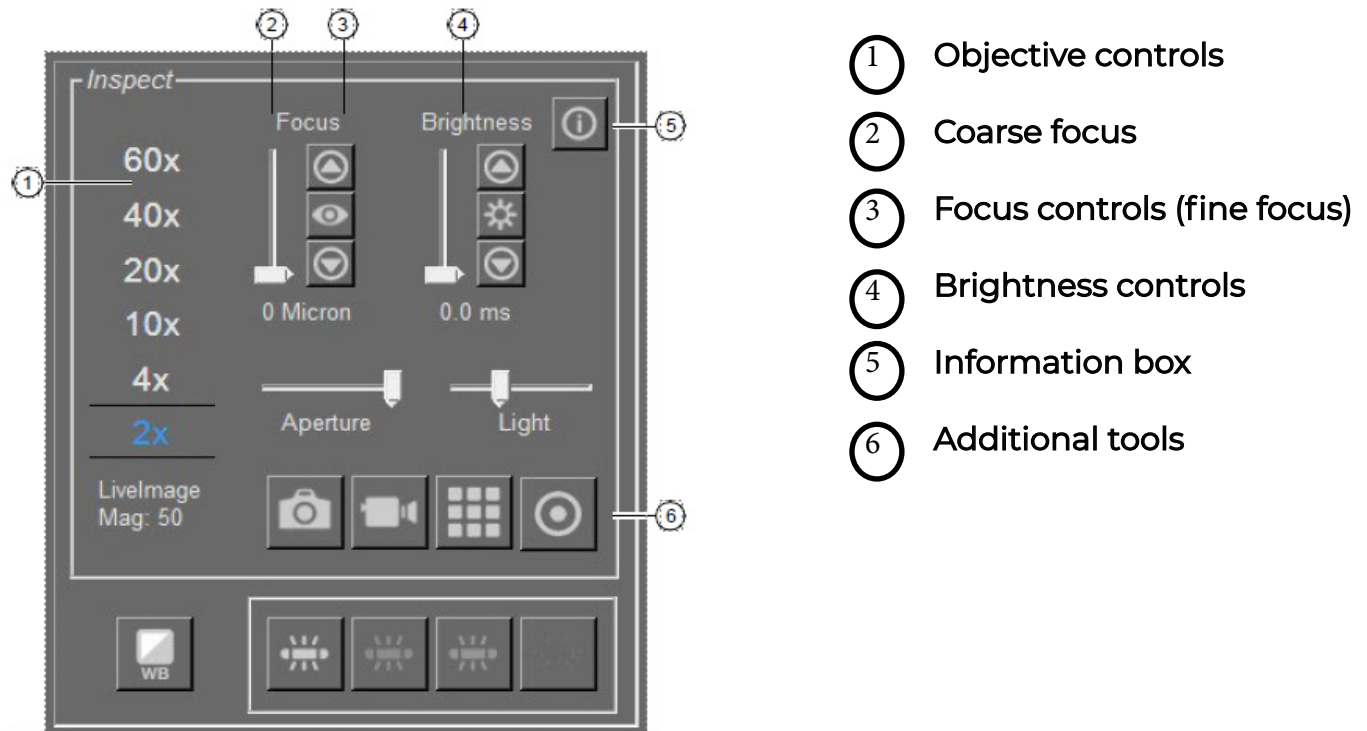

Figure 8
3. (Optional) Change the objective by tapping or clicking the label corresponding to the selected objective. The selected objective is blue (see Figure 8).
Control the brightness using the software buttons in the **Inspect** tools pane (see Figure 8).
Control the image focus using the software buttons in the **Inspect** tools pane (see Figure 8).
1. In the Inspect tools pane, click (Information) to open the Inspect Options dialog box, then click the Focus tab (see Figure 8).
1. In the Inspect tools pane, click (Information) (see Figure 8) to open the Inspect Options dialog box.
Brightness	If needed, in the Inspect pane (see Figure 8), adjust the Brightness controls. A recommended brightness setting at 2X is 2.0 ms to 8.0 ms.
The AccuvaCollect software automatically sets the brightness when you tap or click (Autobrightness) on the Inspect tools pane (see Figure 8). If the default autobrightness is not appropriate for your sample, you can adjust the value manually and save it as the default.